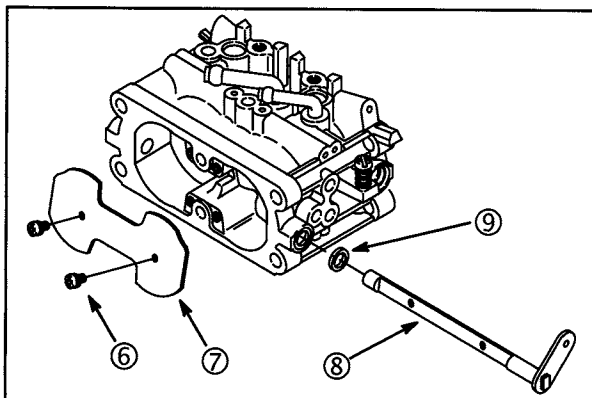

**Fig. 68**
1. Install new throttle shaft seal (3) with sealing lip out, **Fig. 68**.
2. Install throttle shaft (2) with spacer (1).
**NOTE:** Install one throttle plate (4) at a time. Check throttle shaft for freedom of operation after installing each throttle plate.
**NOTE:** Use LOCTITE® 222 on screw threads (5).